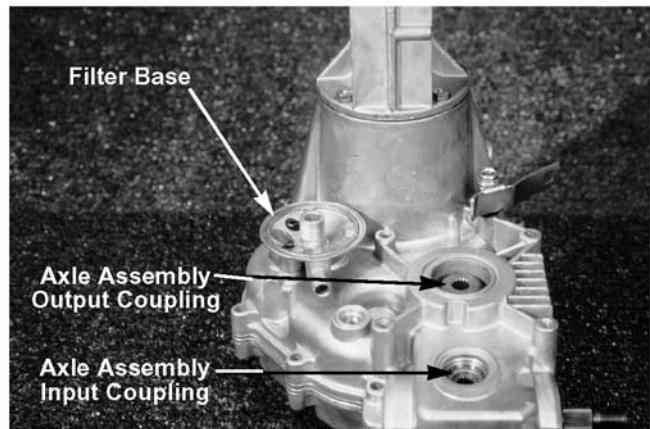

Figure 5-7.
- C. Filter base (filter removed). See Figure 5-7.